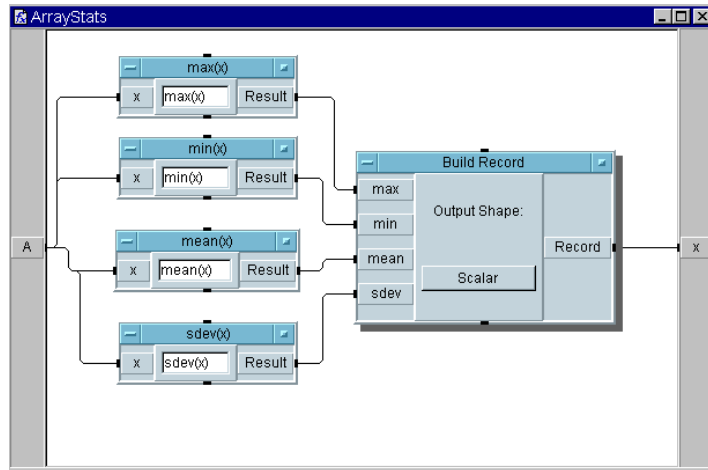

Figure 8-4. Editing the UserFunction ArrayStats
- f. Connect the Build Record output to the X output terminal on the User Function editing window. The program should look like Figure 8-4. Then click the iconize button on the window.